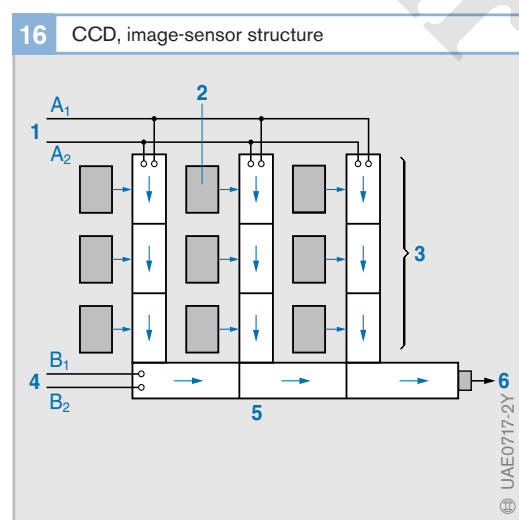

Fig. 16
CCDs are integrated circuits arranged as a charge-coupled array. They are used to record images in video and digital cameras as well as in scanners. Thousands or even millions of individual elements laid out in a matrix pattern (array) are created on a chip (Fig. 16). Digital cameras can record up to 3.5 million pixels with a colour resolution of 16 million colours. CCDs are not only capable of converting the visual information into electrical signals, they can also store the data until it can be transferred to an external storage medium. To do this, the output register (5) is scanned at a high rate.